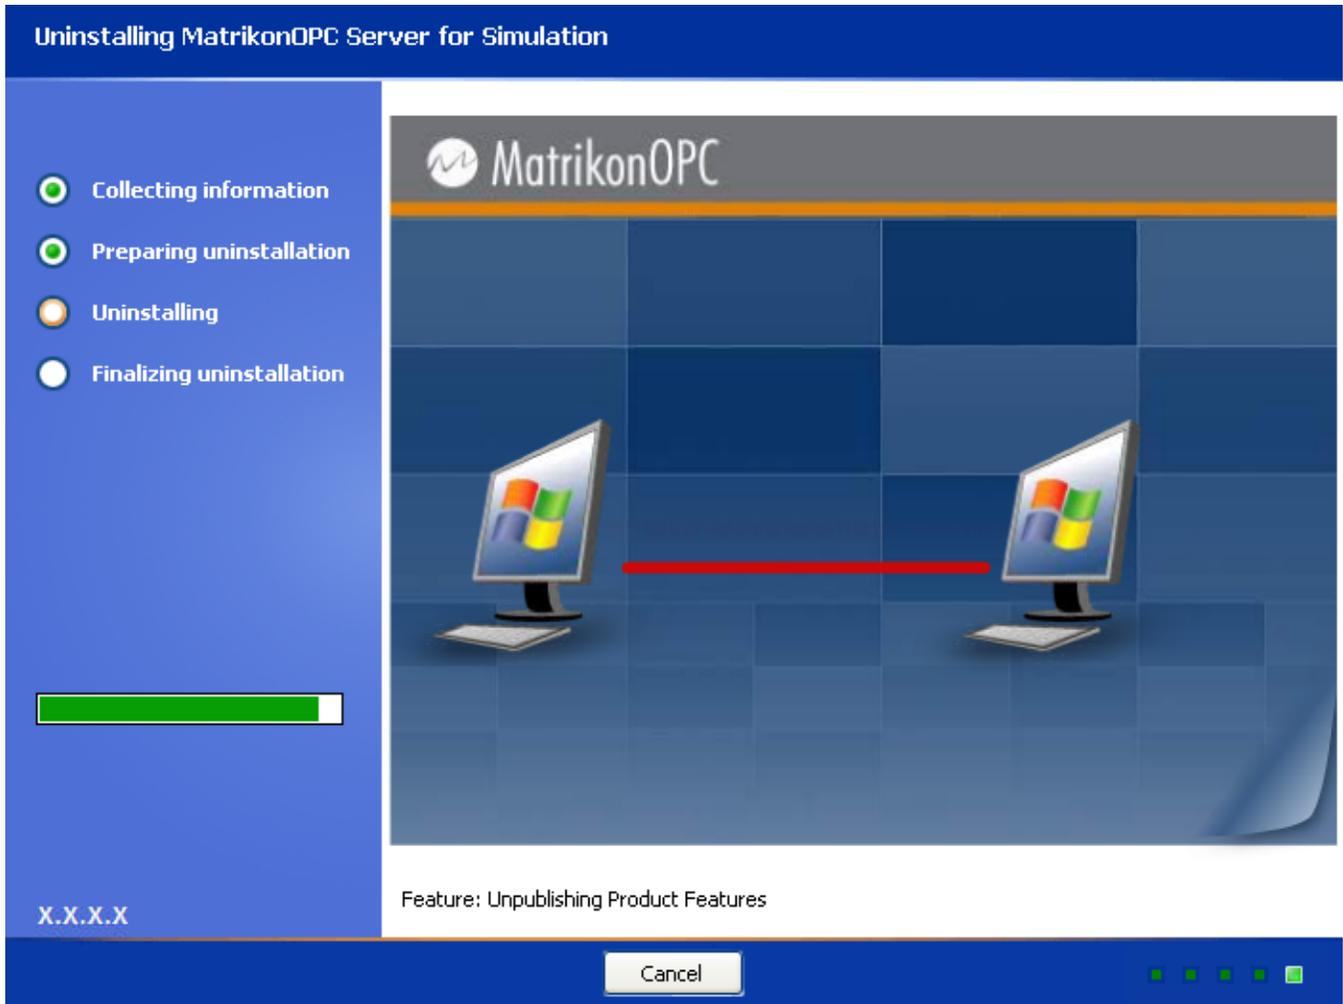

Figure 34 - Uninstalling MatrikonOPC Server for Simulation Screen
10. The **Uninstalling MatrikonOPC Server for Simulation** screen (Figure 34) appears and the uninstall takes place.